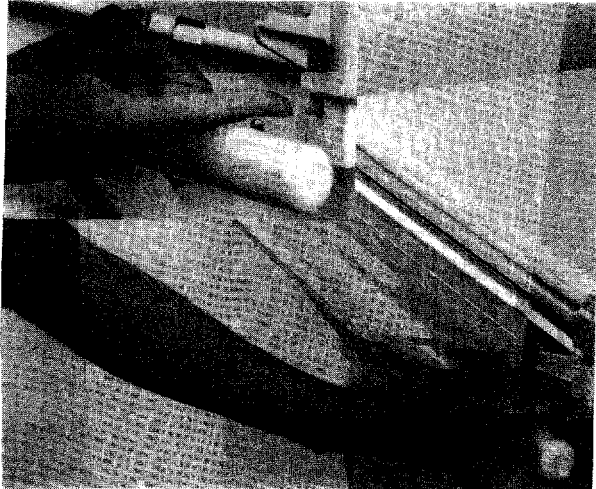
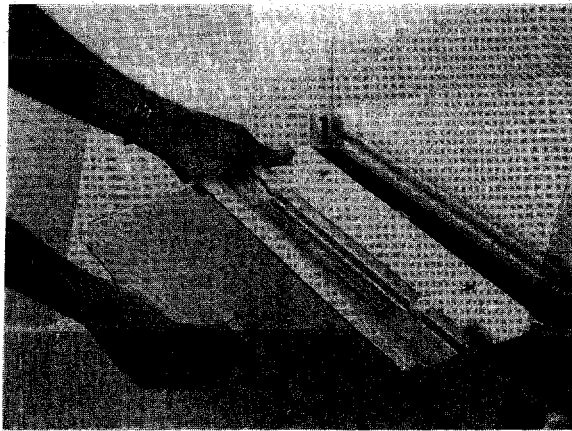

FIGURE 5.3 BASSINET FRONT PANEL RELEASE BUTTONS
FIGURE 5.4 REMOVING BASSINET FRONT PANEL
3. Remove the Bassinet Front Panel (Figure 5.3) by raising it and then swiveling it down. At the corners, press up on the release buttons and pull the panel straight out (Figure 5.4).
5. Replace the Bassinet Front Panel by sliding it into the front of the Bassinet (Figure 5.4) until the release tabs catch. Raise the Panel into position.